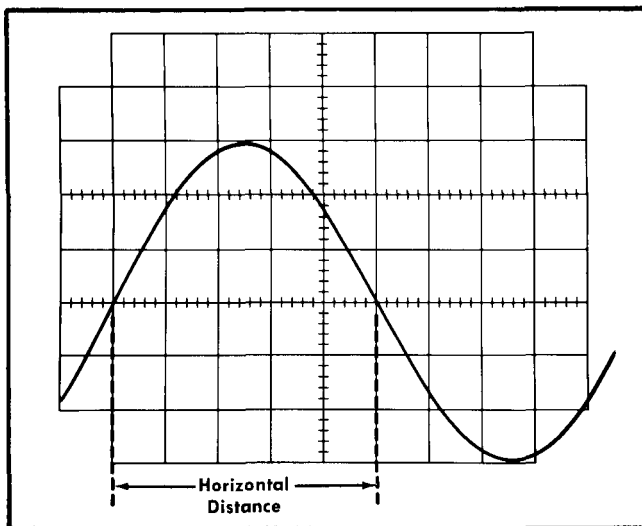

Fig. 2-16. Measuring time duration between two points on a waveform.
6. Set the B TIME/CM switch to the fastest sweep rate that will display less than eight divisions between the desired time measurement points (see Fig. 2-16). See the topic entitled Selecting Sweep Rate in this section concerning the non-linearity of the first and last divisions of display.
Example: Assume that the distance between the time measurement points is 5 cm (see Fig. 2-16) and the B TIME/CM switch is set to .1 mSEC with the magnifier off.